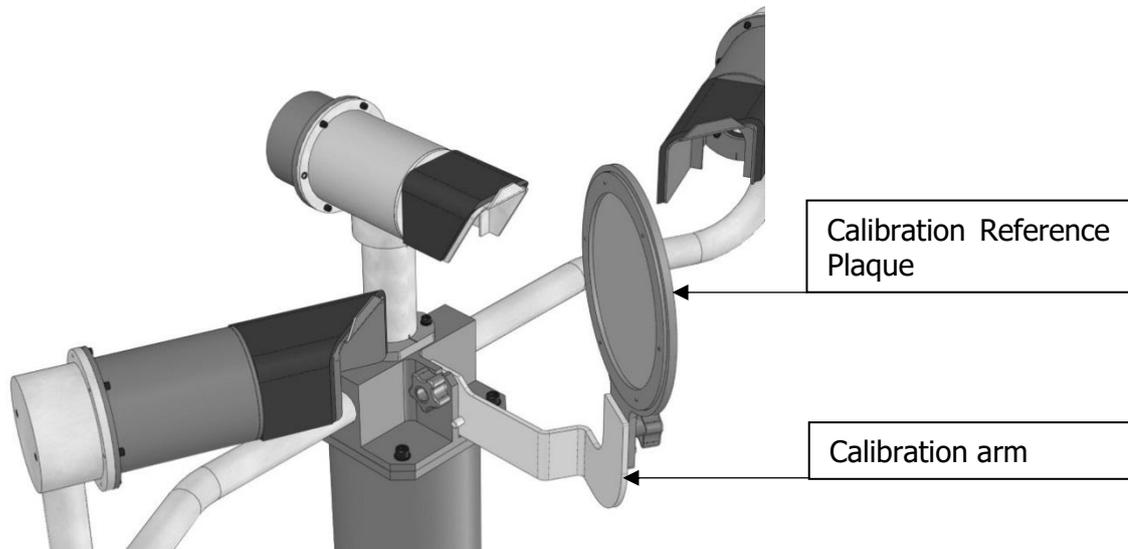

Figure 6-1 Assembly of Calibration Reference Plaque
Please see Figure 6-1 Assembly of Calibration Reference Plaque for a diagram of the Calibration Reference Plaque attached to a sensor.
The calibration reference plaque should first be attached to the arm. Confirm that the serial number marked on the calibration reference plaque matches that on the label on the calibration arm. If not, do NOT use this assembly as it may not give a true calibration. This assembly should then be attached to the sensor as shown in Figure 6-1 Assembly of Calibration Reference Plaque.
**Step 2:** Attach the calibration reference plaque to the sensor as shown in Figure 6-1 Assembly of Calibration Reference Plaque (power to the sensor need not be removed). Do not stand close to the sensor during calibration as reflections may cause errors in the reported values.